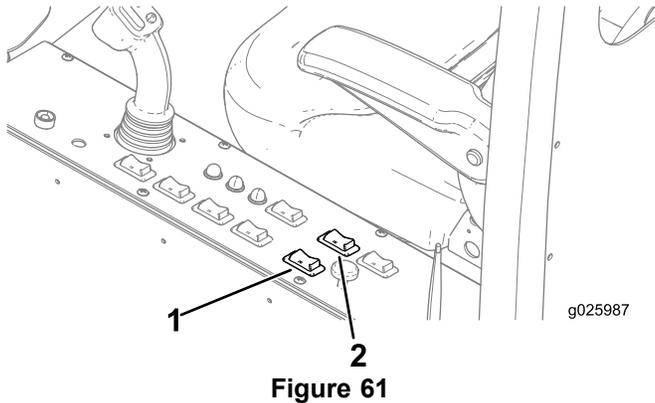

Figure 61
1. Push back on the SWING-ROCKER switch (until the cab stops) to swing the cab to the DRILL position (Figure 61).
2. Push back on the ROTATE-ROCKER switch to rotate the cab to the desired drill position (Figure 61).
1. Push forward on the ROTATE-ROCKER switch (until the cab stops) to rotate the cab to the TRANSPORT position (Figure 61).
2. Push forward on the SWING-ROCKER switch (until the cab stops) to swing the cab to the TRANSPORT position (Figure 61).